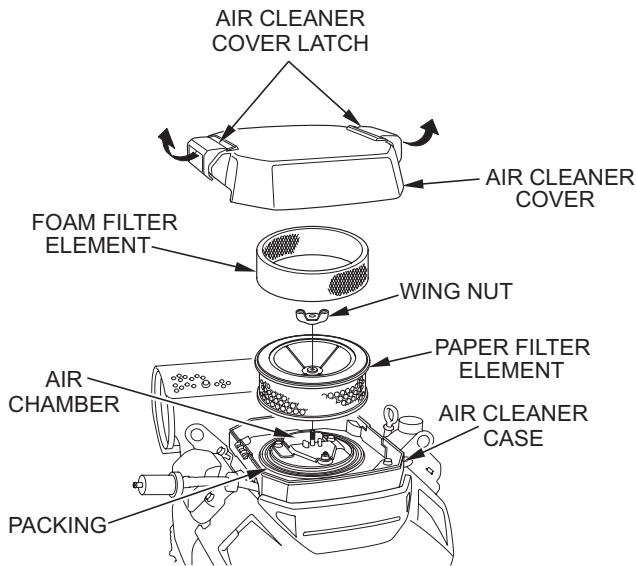

Figure 42. Engine Air Cleaner
1. Pull the air cleaner cover latch (Figure 42) to the unlock position, and remove the cover.